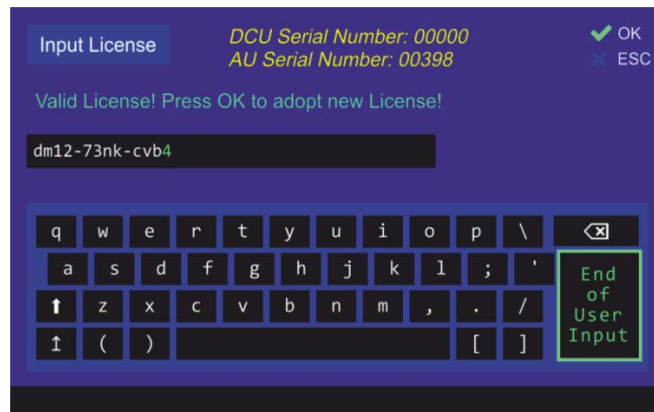

Fig. 164 Input of a new license
- After a valid license code was inputted, the device will show the message “Valid License!” and ask for confirming the action of adopting the new license (s. Fig. 164).